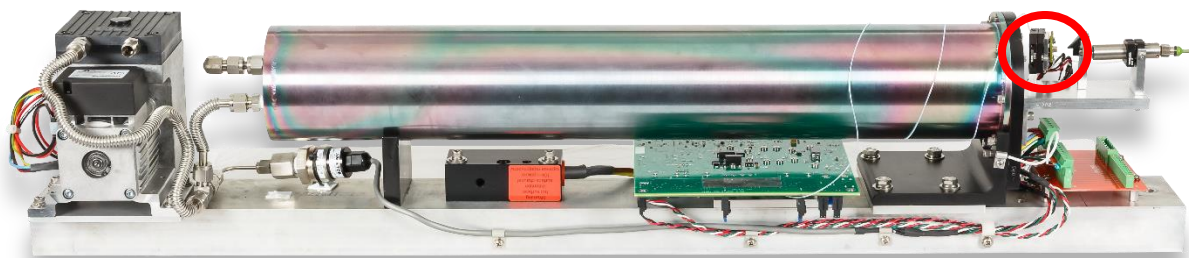

Figure 56: Location of the Detector
6. Locate the detector shown in Figure 56.